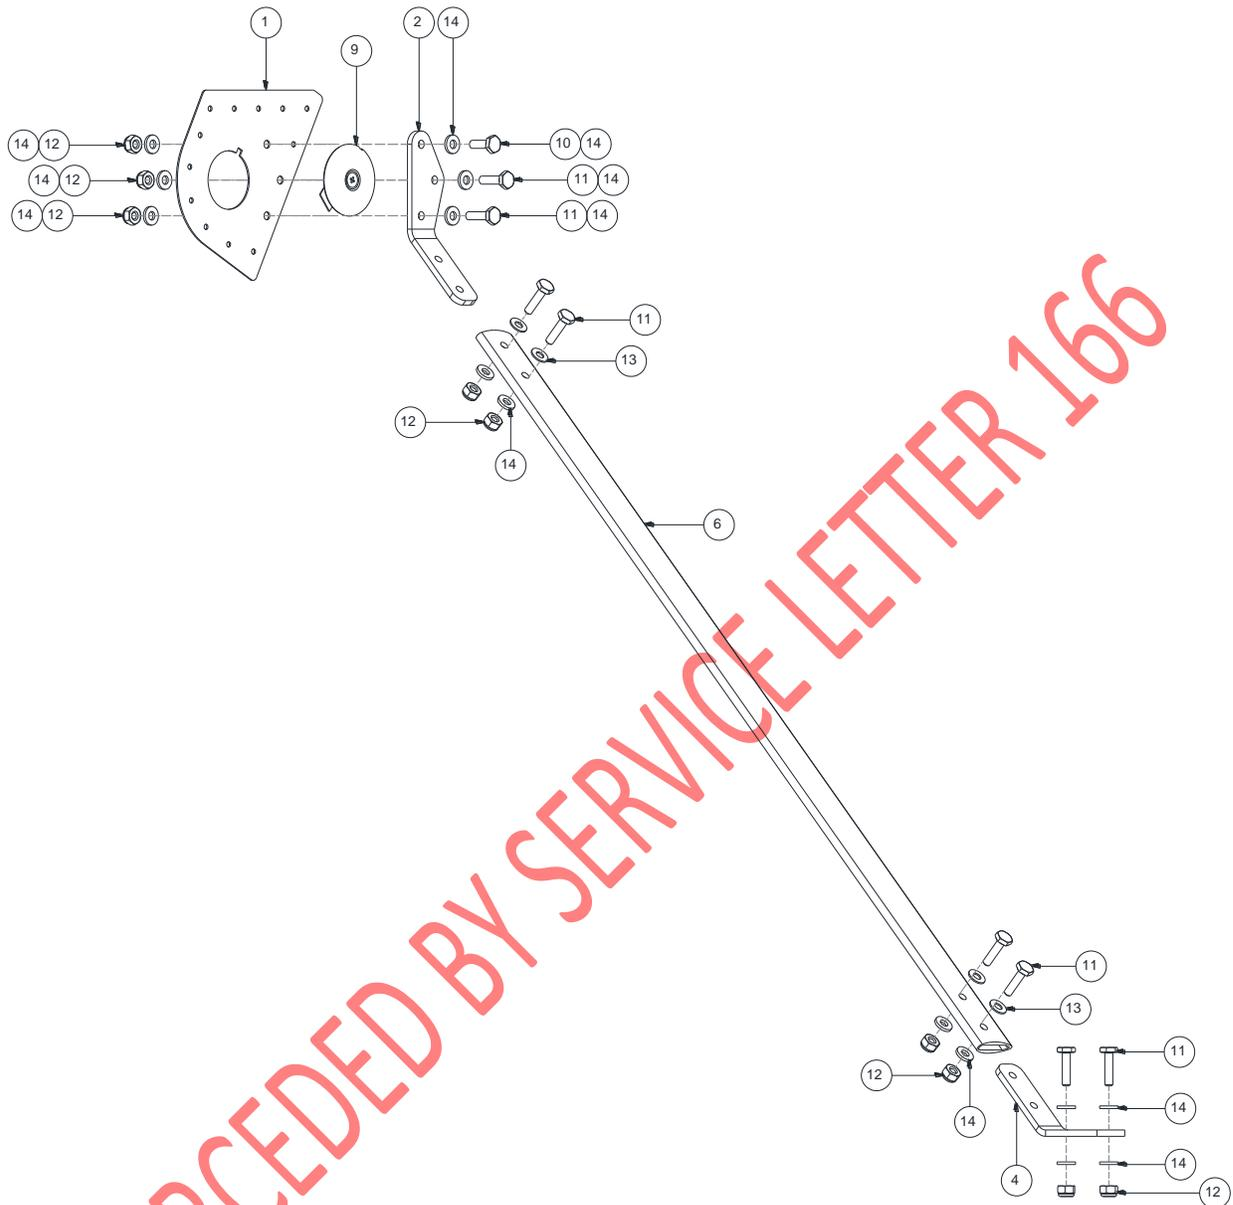

Figure 3: Optional Support Strut Assembly - Exploded View (Upr-Lt/Lwr-Rt configuration shown)
12. Install and tighten all strut hardware as shown in Figure 3 and coat with grease.